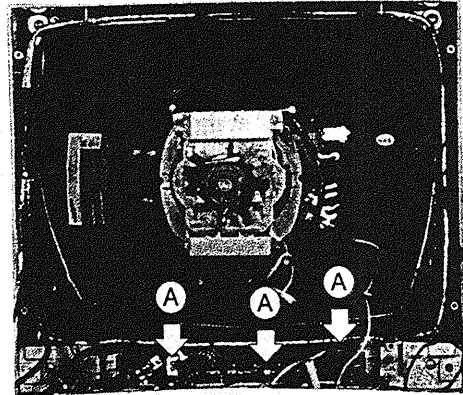

Figure 2-8
1. Remove the three screws from the control board. Refer to the figure 2-8 (A).